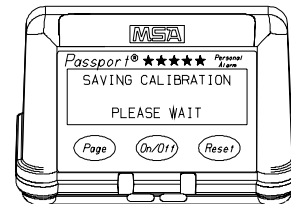

Figure 2-10.
- The (FIGURE 2-10) display appears: